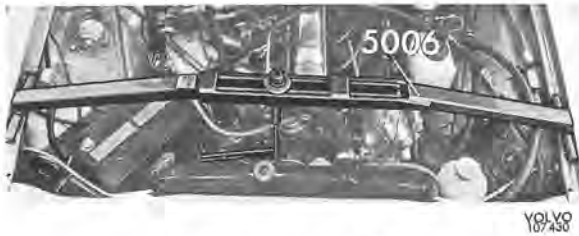

Fig. 2-17. Lifting tool 5006
1. Place lifting tool 5006 as shown in Fig. 2-17. Hook the lift hook round the alternator tensioning bar, next to the engine block. Raise the front end of the engine to off-load the engine mountings. Remove the oil dipstick.